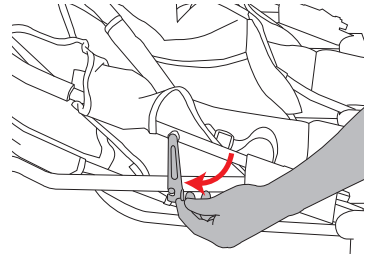

Figure 29
- Locate the locking latch near the canopy on the right side of the stroller and rotate the latch until it is engaged on the extended rivet on the rear leg tube. See Figure 29.